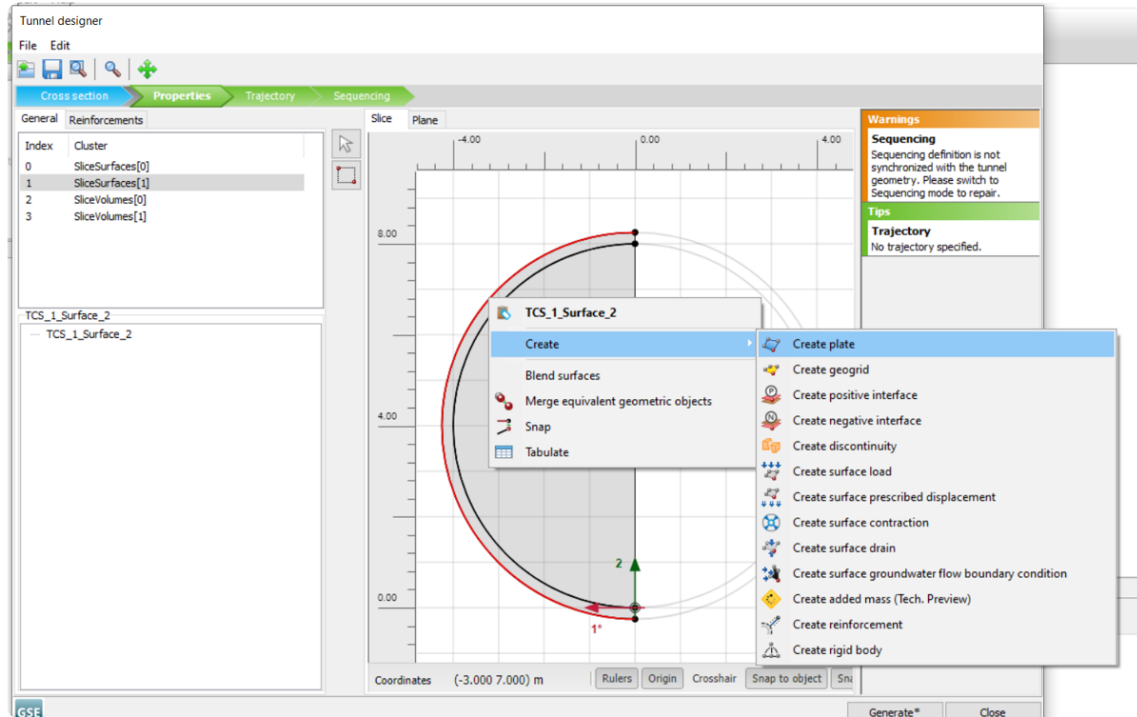

Figure 5-7: Tunnel designer - Plate creation
- 1 Click on the **Slice** tab (above the *Drawing area*) and right-click on the outer surface of the TBM. From the appearing menu select **Create > Create plate** (see Figure 5-7 \(p. 90\)).